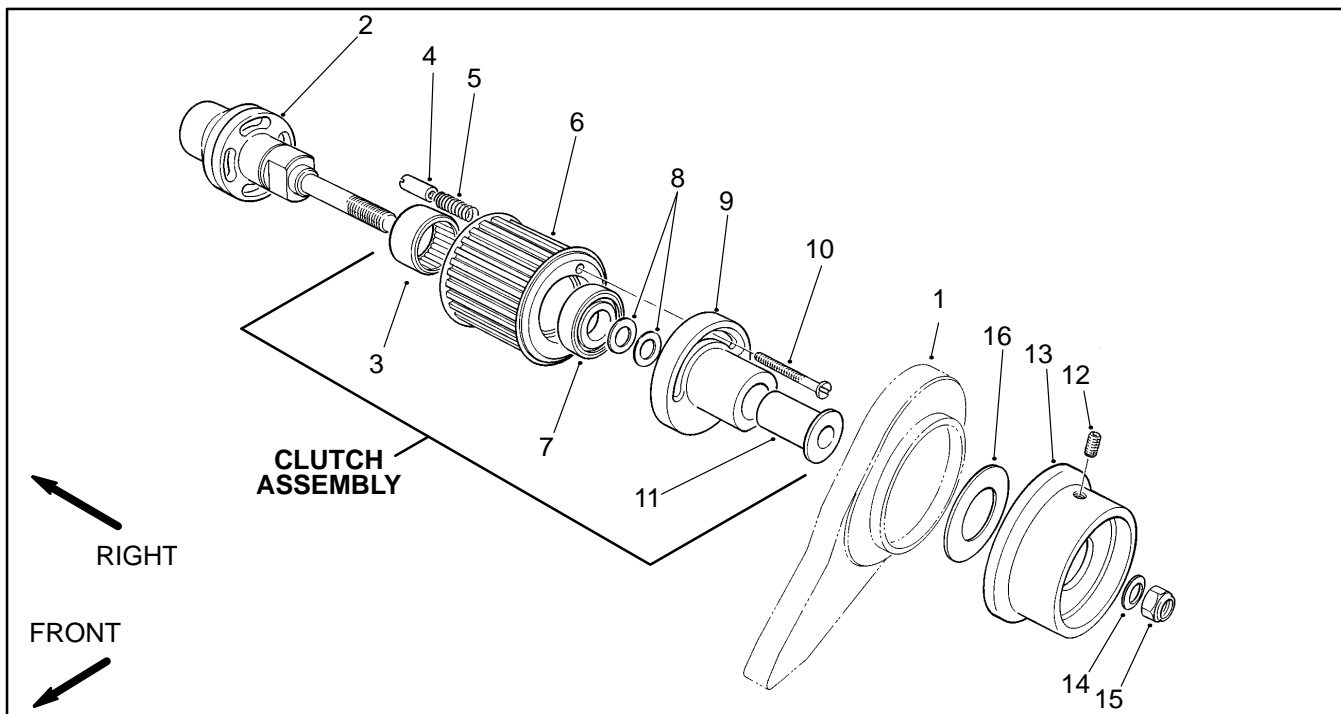
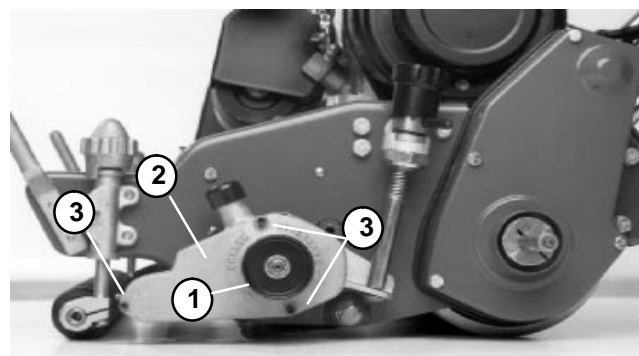

Figure 6
Figure 7
2. Loosen both set screws in the clutch knob. Remove clutch knob and poly washer from the clutch assembly (Fig. 6).
3. Remove three socket head cap screws and washers, then remove belt cover (Fig. 7).
6. Secure belt cover to housing with three socket head cap screws and washers (Fig. 7). Reinstall poly washer and clutch knob to clutch assembly. Tighten both set screws into the clutch knob (Fig. 6).
6. Secure belt cover to housing with three socket head cap screws and lock washers (Fig. 7).